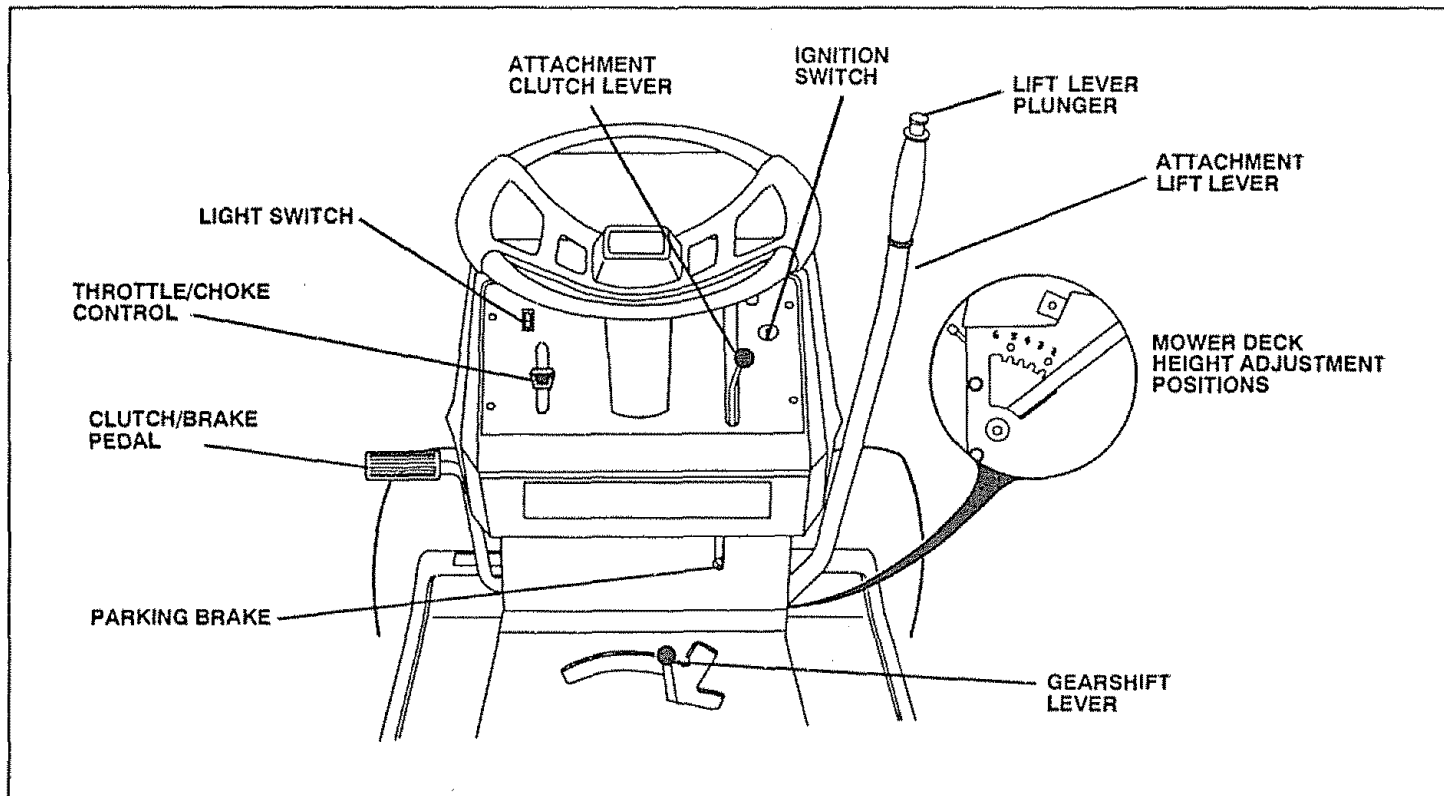

FIG. 6
BEFORE ROLLING UNIT OFF SKID (See Fig. 6)
- Slide seat until a comfortable position is reached which allows you to press clutch/brake pedal all the way down (See Fig. 6).
TO MOVE FORWARD AND BACKWARD (See Fig. 6)
TO ADJUST MOWER CUTTING HEIGHT (See Fig. 6)